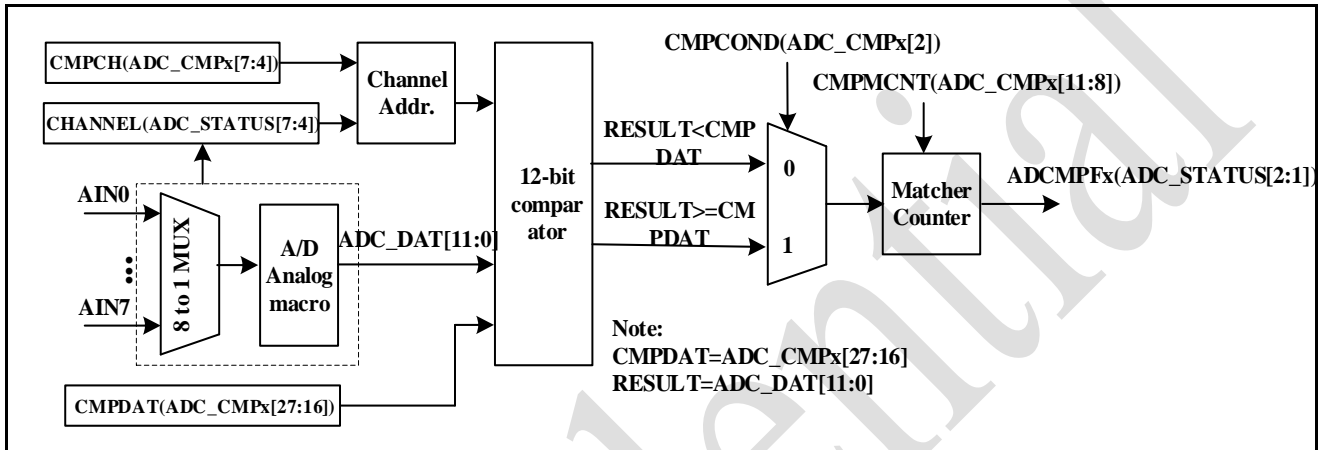

Figure 4-102 A/D Conversion Result Monitor Logics Diagram
**CMPCOND** bit is cleared to 0, the internal match counter will increase one when the conversion result is less than the value specified in CMPDAT (ADC\_CMPx[25:16]); if CMPCOND bit is set to 1, the internal match counter will increase one when the conversion result is greater than or equal to the value specified in CMPDAT[11:0]. When the conversion of the channel specified by CMPCH is completed, the comparing action will be triggered one time automatically. When the compare result meets the setting, compare match counter will increase 1, otherwise, the compare match counter will be clear to 0. When the match counter reaches the setting of (CMPMCNT+1) then ADCMPIF bit will be set to 1, if ADCMPIE bit is set then an ADC\_INT interrupt request is generated. Software can use it to monitor the external analog input pin voltage transition in scan mode without imposing a load on software. Figure 4-102 show detailed logic diagram.